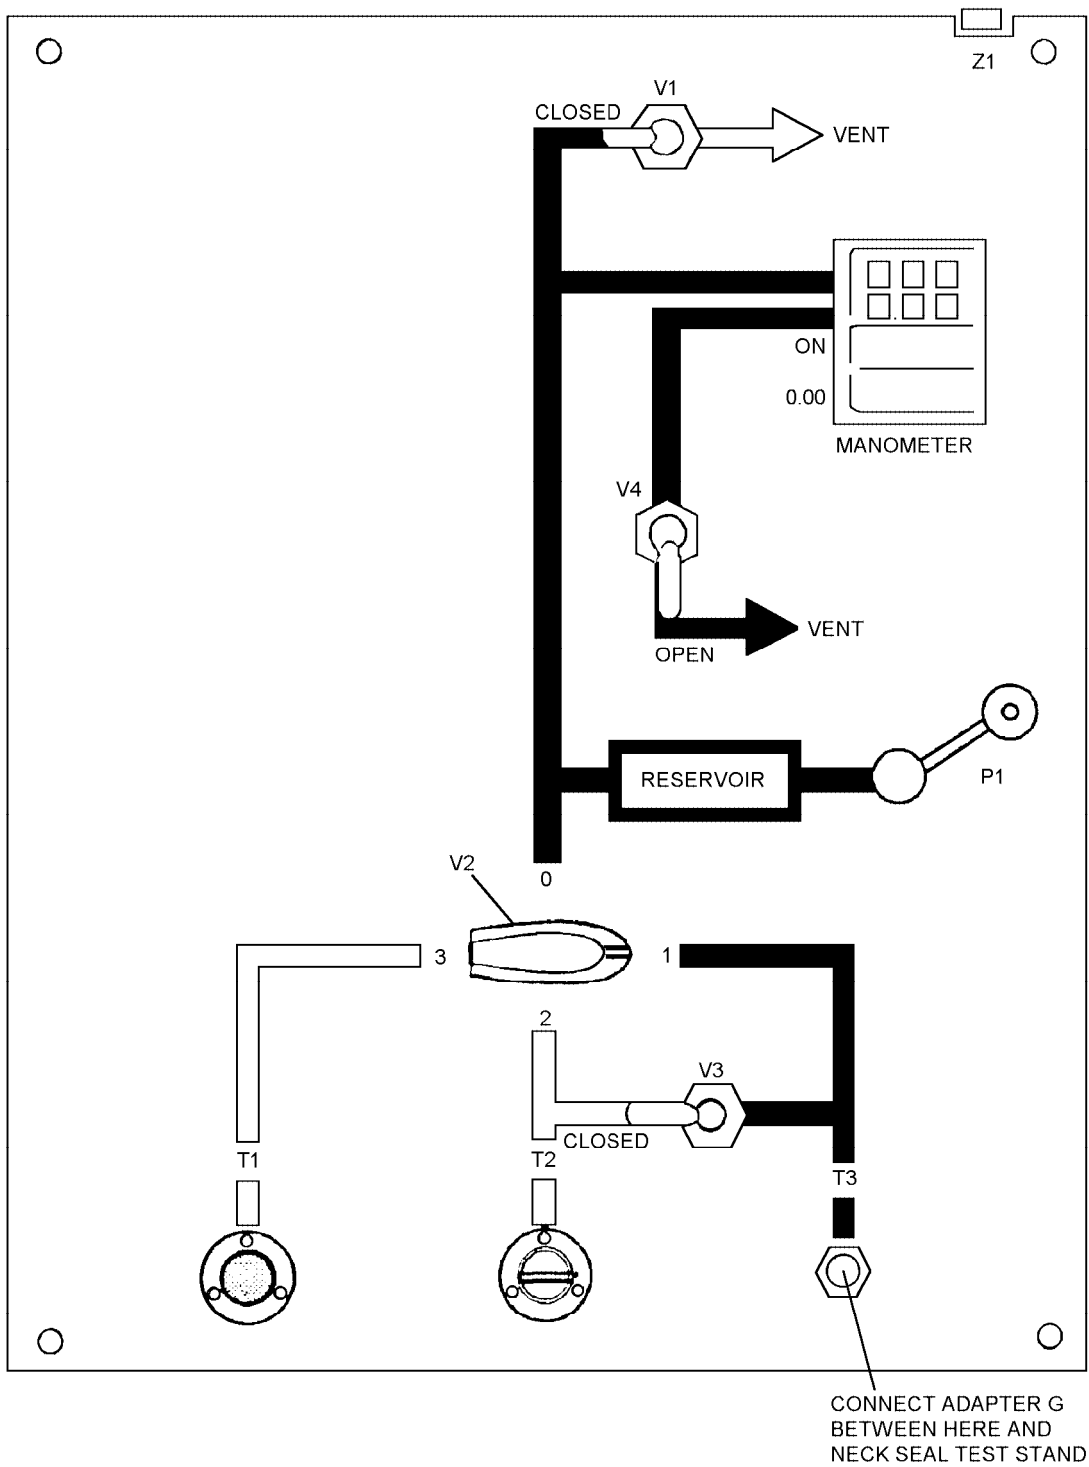

Figure 4-98. Compensated Exhalation Valve - Functional Test
5. Connect adapter G to T3 and neck seal test stand (figure 4-98).